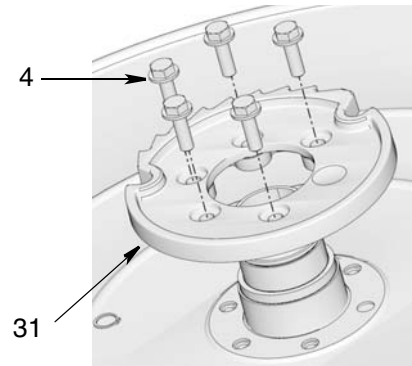

FIG. 30
- b. Install bolts (4) to secure ratchet (31) to spool (FIG. 30). Before tightening bolts, verify swivel (3) is installed in the correct orientation as shown in FIG. 27, page 18. Wrench tighten bolts. Then torque to 25 to 35 ft. lbs (33.9 to 47.45 N.m).